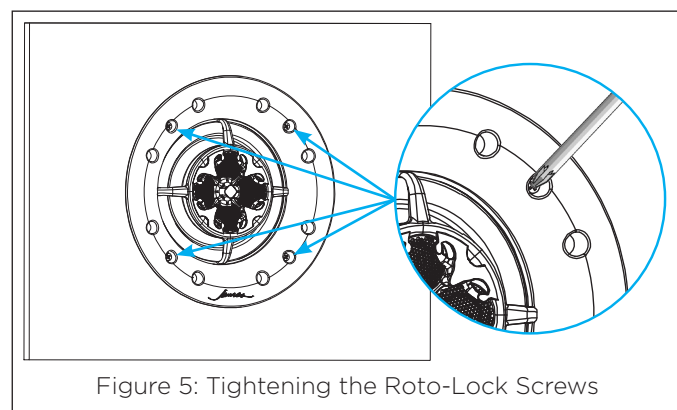

Figure 5: Tightening the Roto-Lock Screws
1. Insert the speaker into the mounting hole and tighten the four screws on the front of the speaker baffle (see Figure 5).